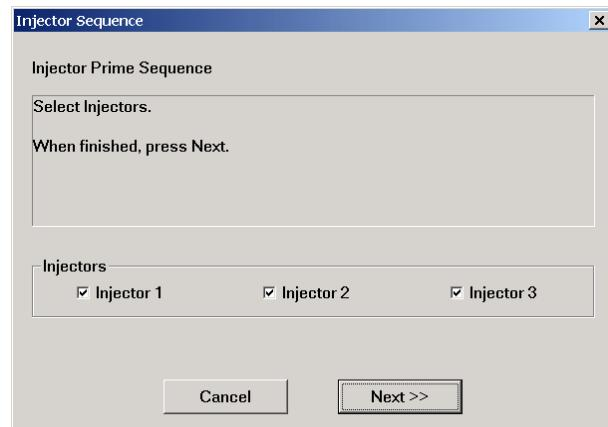

Figure 5-10: Select injectors
- Select **Instrument | Prime** to open the **Injector Sequence** dialog box (Figure 5-10).